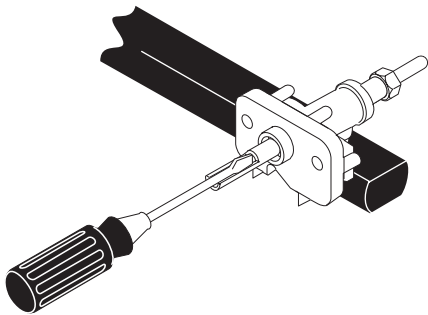

Figure 21: Turn to adjust surface flame
5. Insert a thin-bladed screwdriver into the hollow valve stem and engage the slotted screw inside as shown in Figure 21. Flame size can be increased or decreased by turning the screw.